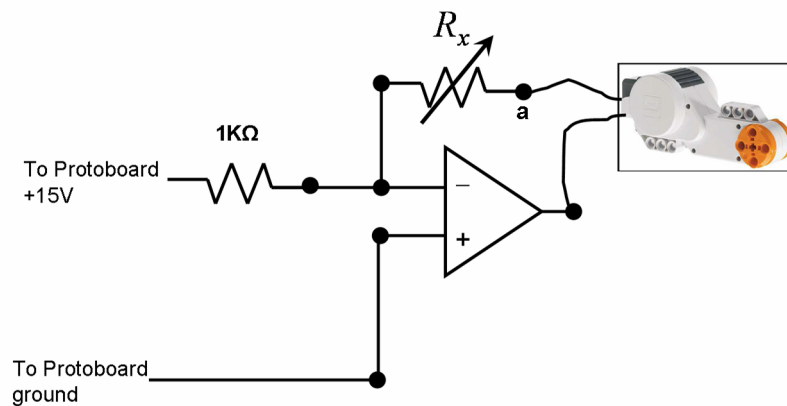

Figure 2: Hooking the motor to the Protoboard supply, using an op-amp.
4. Suppose we connect the motor to the Protoboard supply as shown in figure 2, where R_x denotes a potentiometer, i.e., a variable resistance.